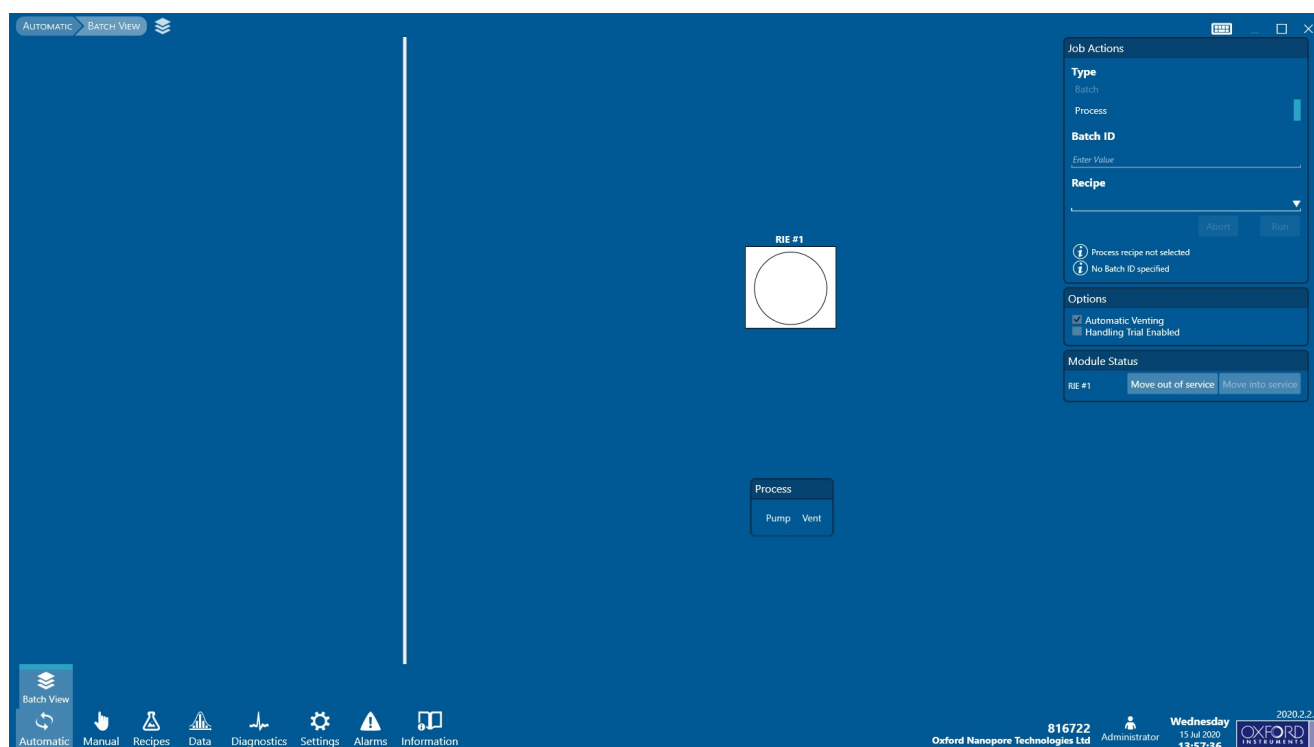

Figure 4-11 Batch View page
- 7 Click on **Automatic** in the main menu to open the **Batch View** page. See Figure 4-11.